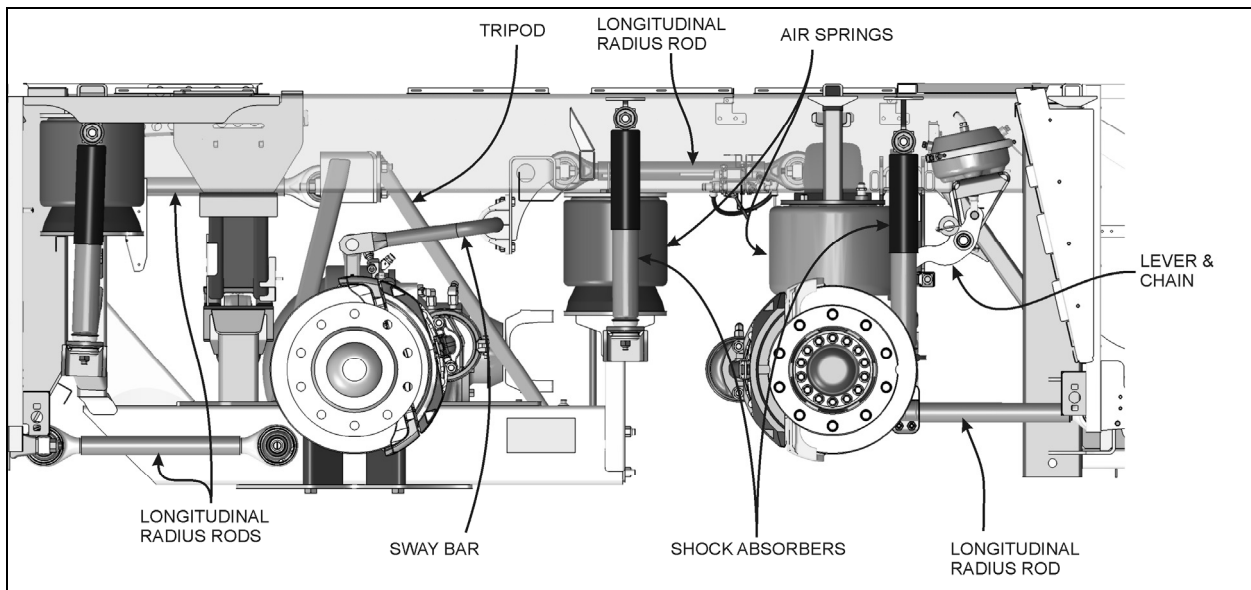

FIGURE 39: REAR SUSPENSION COMPONENTS
2. Loosen the clamp on the height control valve rubber coupling and bring it up or down (Fig. 39).